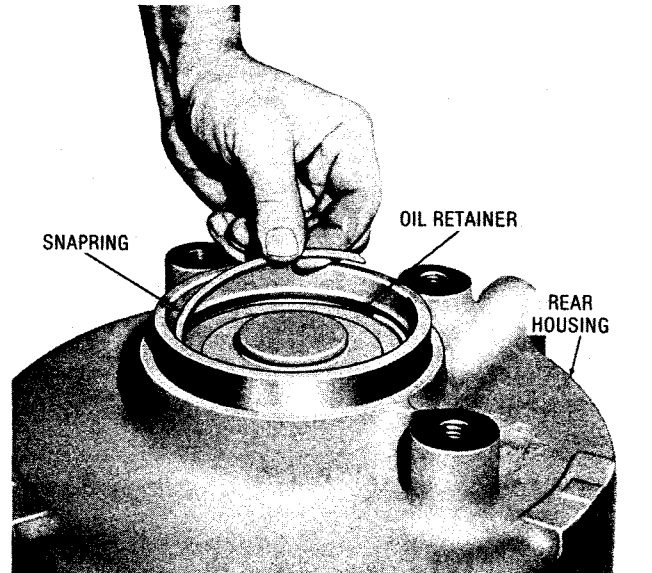

Fig. 7-46. Installing oil retainer snapping (TRT-1)
(8) Install the snapping which holds the oil retainer in the rear of the rear housing (fig. 7-46).